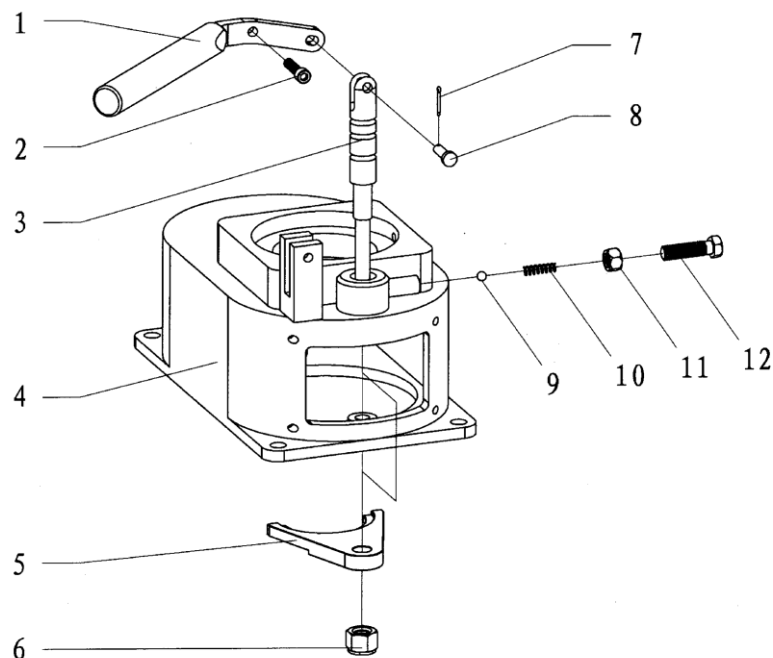

Fig. 7-8
8. Gear engagement assembly (Fig7-8, Table 8)